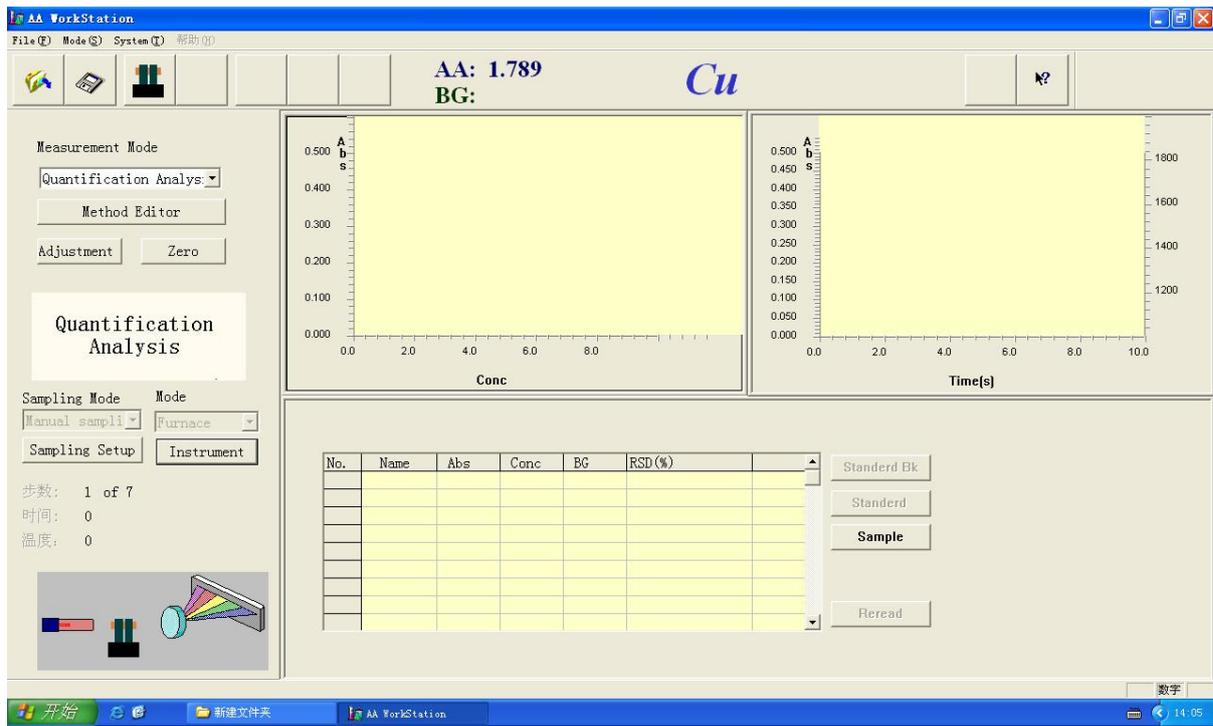
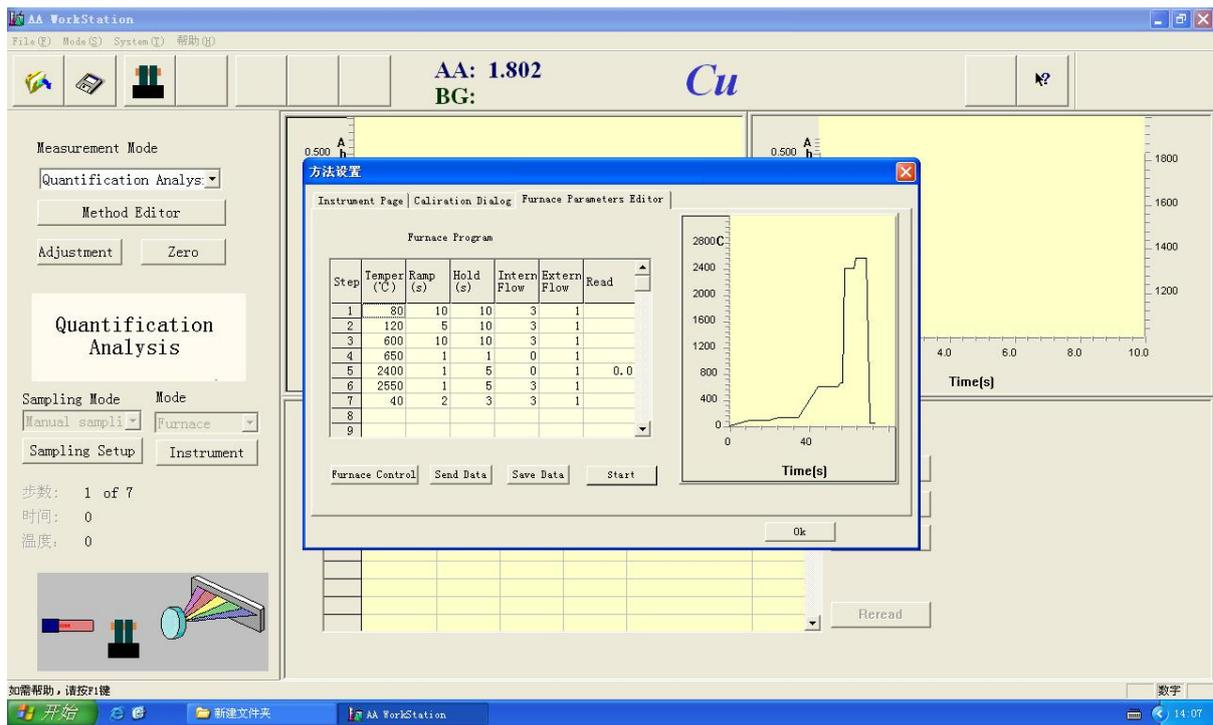

Figure 5-4
Figure 5-5
6. Press **【OK】** button to close the dialog box, "Sample" button brighten(Figure 5-4)
7. Press **【Instrument】** (Figure 5-4), "Furnace Parameters Editor" is displayed, see Figure 5-5